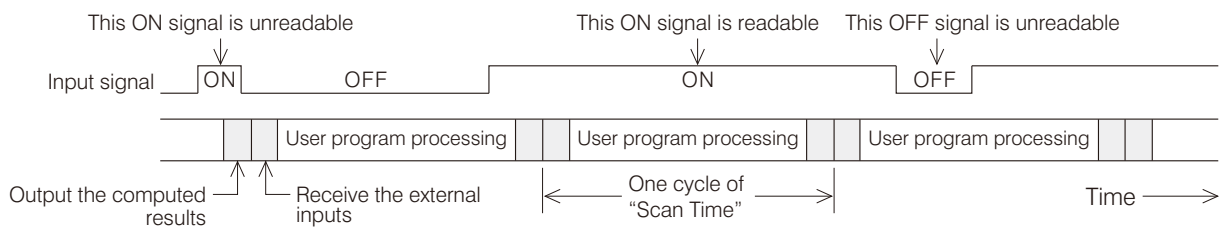

Fig. 1-4 PLC cannot read input signal which is swap over too fast
7. PLC cannot read input signals which change too fast. For PLC, regardless of input signals, ON or OFF, its duration must be longer than the scan time; otherwise, PLC is likely failed to read correct signals, as shown in Fig.1-4. When input signal changes too fast to be read normally, the interrupt input function or pulse wave capture function can be employed.